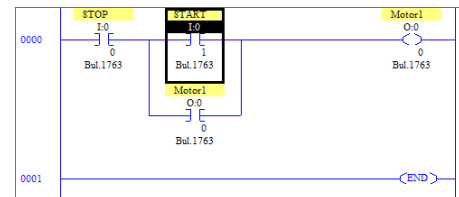

Figure 4: Motor control ladder logic
- a. From the instructions toolbar under user tab, click on the Examine If Closed (XIC) icon (E) to examine the state of the STOP switch.
- f. Add Turn on a bit (ON) to turn on the output.
- i. Test you program for effort from Edit >> Verify file. Fix any error if displayed. Your program should look like similar to figure 4.